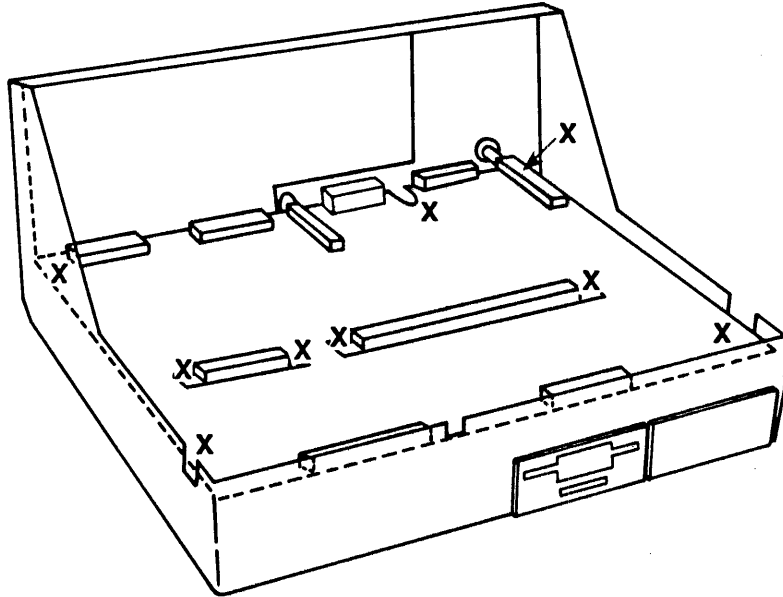

Figure 2-3. Controller Board Retaining Screw Locations
- Using the screwdriver, remove the five screws (see figure 2-3). Use the nut driver or allen wrench to remove the four guide pins located at the socket module connectors. If you are using the allen wrench for removal, insert it into the small holes in the sides of the guide pins.